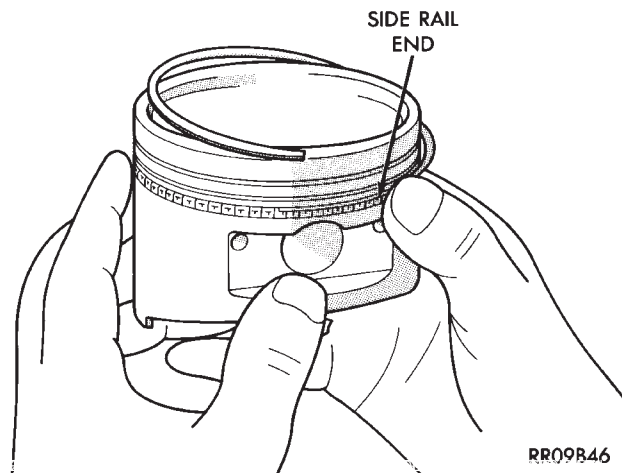

Fig. 10 Side Rail—Installation
- (2) Oil ring expander.
- (3) Upper oil ring side rail.
- (4) Lower oil ring side rail.
- (5) No. 2 Intermediate piston ring.
- (6) No. 1 Upper piston ring.
- (7) Install the side rail by placing one end between the piston ring groove and the expander. Hold end firmly and press down the portion to be installed until side rail is in position. **Do Not use a piston ring expander** (Fig. 10).
- (8) Install upper side rail first and then the lower side rail.